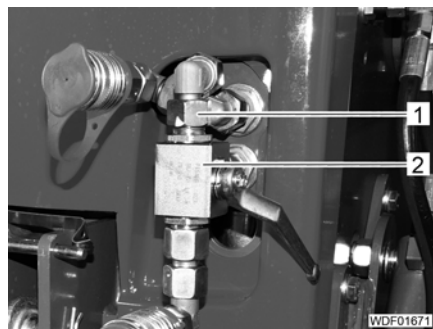

Fig. 298 Ball valve
- Unscrew hydraulic line (Fig. 298,1) at the ball valve (Fig. 298,2) and seal.